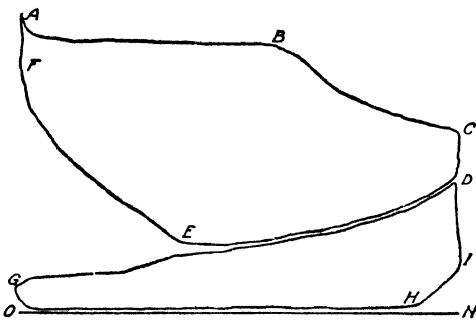

Fig. 21. Indicator Diagram of a Stationary Compound Steam Engine
*Comparison of Indicator Diagrams for Stationary and Automobile Engines.* Fig. 21 is a combined diagram from the high- and low-pressure cylinders of a stationary compound engine. Both cards are drawn to the same scale as regards stroke, but the low-pressure card